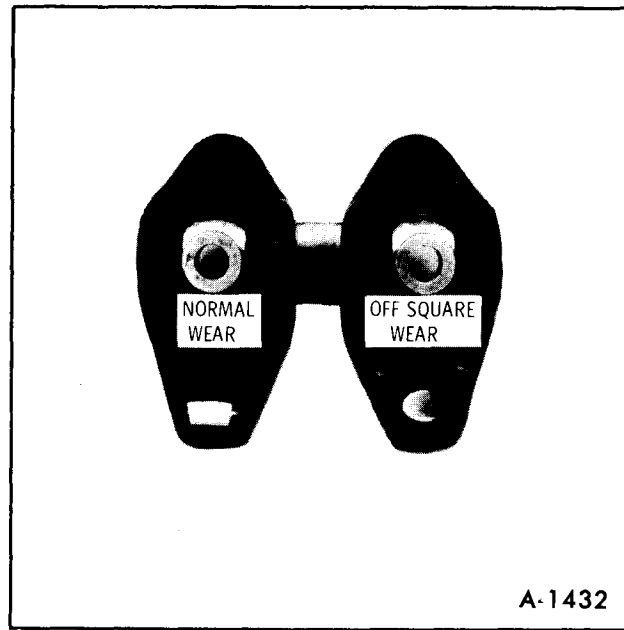

Figure 25—Rocker Arm Wear
b. Observe rocker arm pad for excessive wear or excessive off square. Replace as required. See Figure 25.